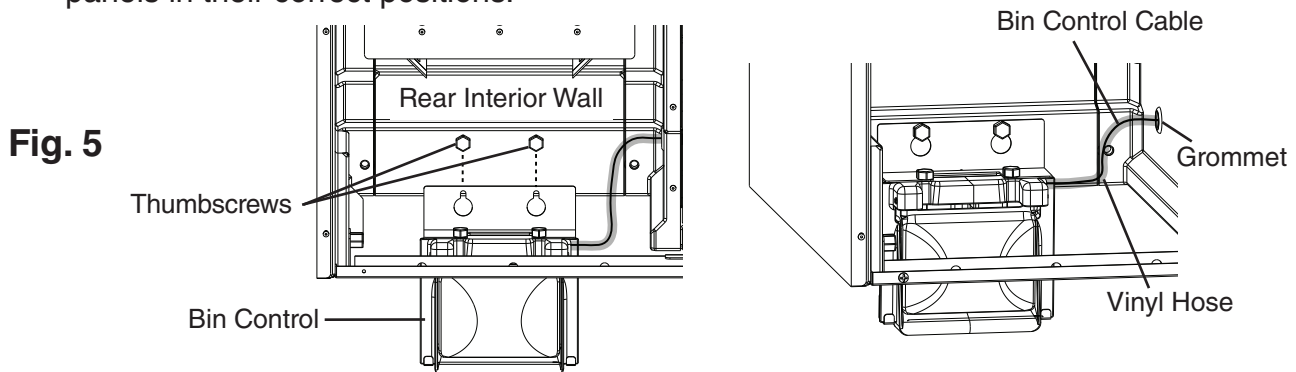

Fig. 5
- 7) Secure the bin control to the rear interior wall using the 2 thumbscrews on the rear interior wall. Route the bin control cable vinyl hose through the grommet as illustrated. Do not leave any slack in the ice drop zone. See Fig. 5.
- 12) Replace insulation panel (B) in its correct position and secure with the 2 thumbscrews.
- 13) Replace insulation panel (A), the top insulation, the control box cover, and the exterior panels in their correct positions.